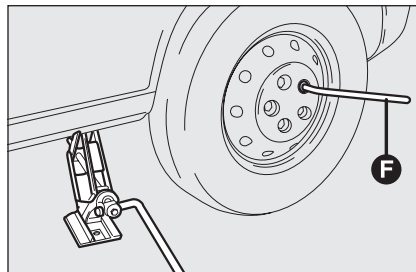

fig. 8
- ☐ fully unscrew the bolts using the spanner **F**-fig. 8 and extract the wheel;